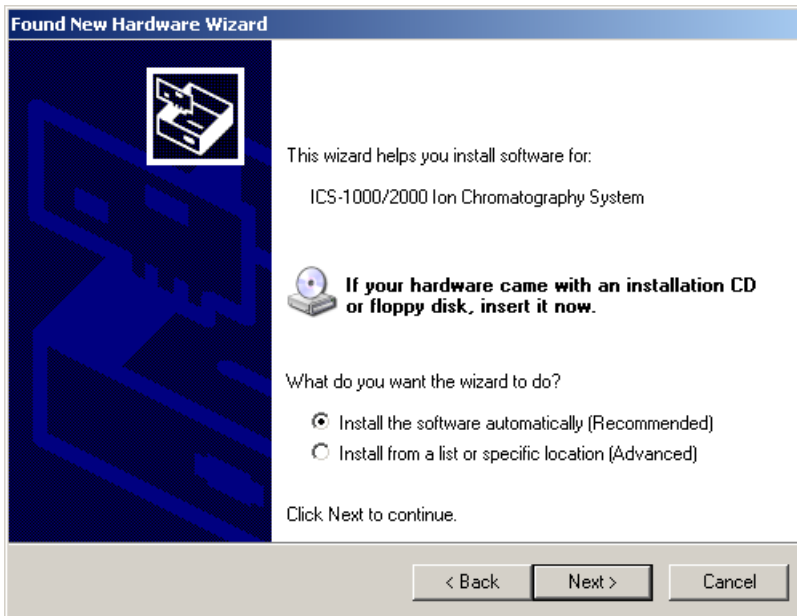

Figure B-11. ICS-2000 Rear Panel
3. Press the power switch on the ICS-2000 rear panel (see Figure B-11) to turn on the power.